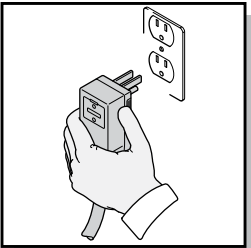

Fig. 17
- Unwind the power cord completely and plug the GFCI into a grounded 120 volt outlet. Press the ‘reset’ button on the GFCI box (Fig. 17). The indicator window should show a red color. This must be done each time the unit is plugged in.